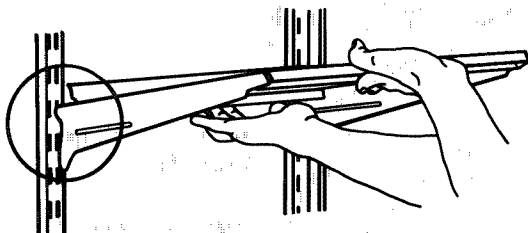

Figure 8
- Insert metal hooks at back of shelf into desired slot in metal track on back wall of refrigerator. See Figure 8.